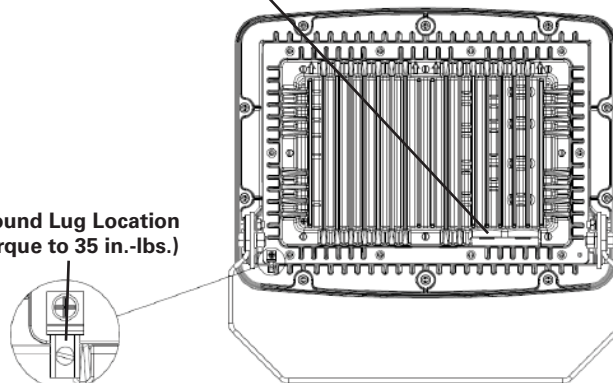

Figure 1
1. Select a durable, corrosion-resistant mounting surface capable of supporting the fixture's 50 lb. (22.7 kg.) weight and cantilevered mass (as applicable) (see Figure 1).